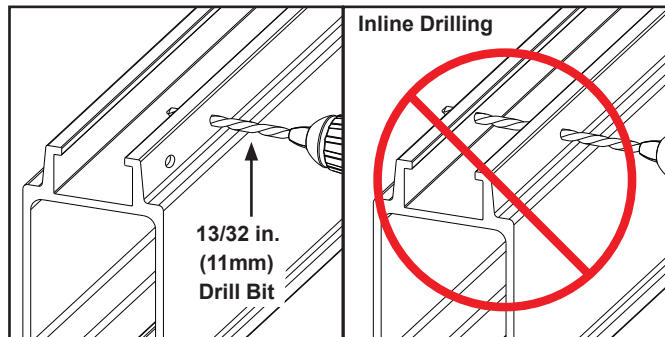

Figure 3-95
- Step 2. Drill two (2) holes using 13/32 in (11 mm) drill bit. Do not attempt to drill holes in-line. See Figure 3-95.